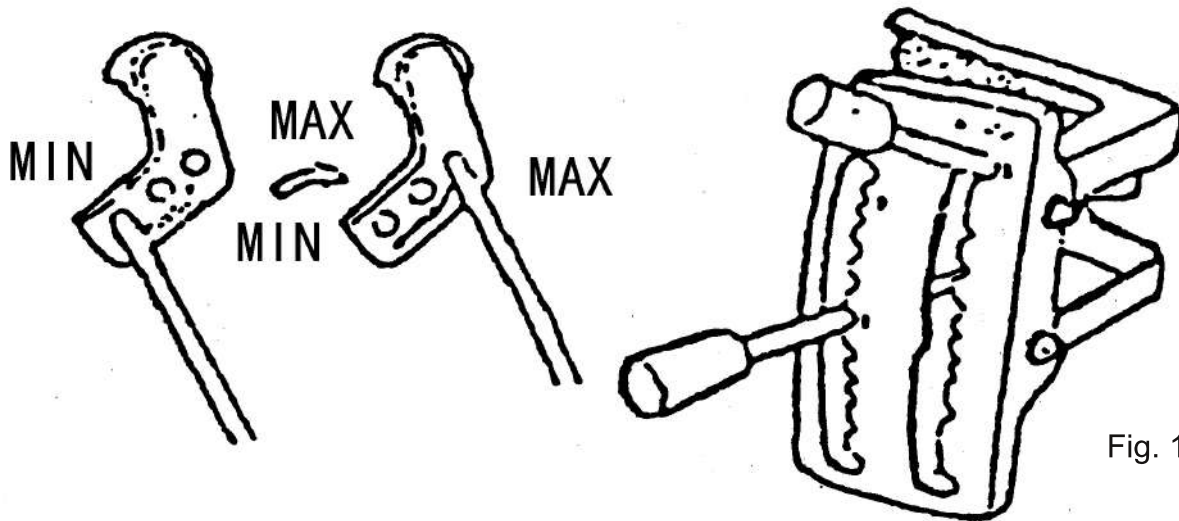

Fig. 12
2) Dusting. Regulate the discharge rate by shifting the dust rod's position in the three holes of the rock-arm. See Fig12